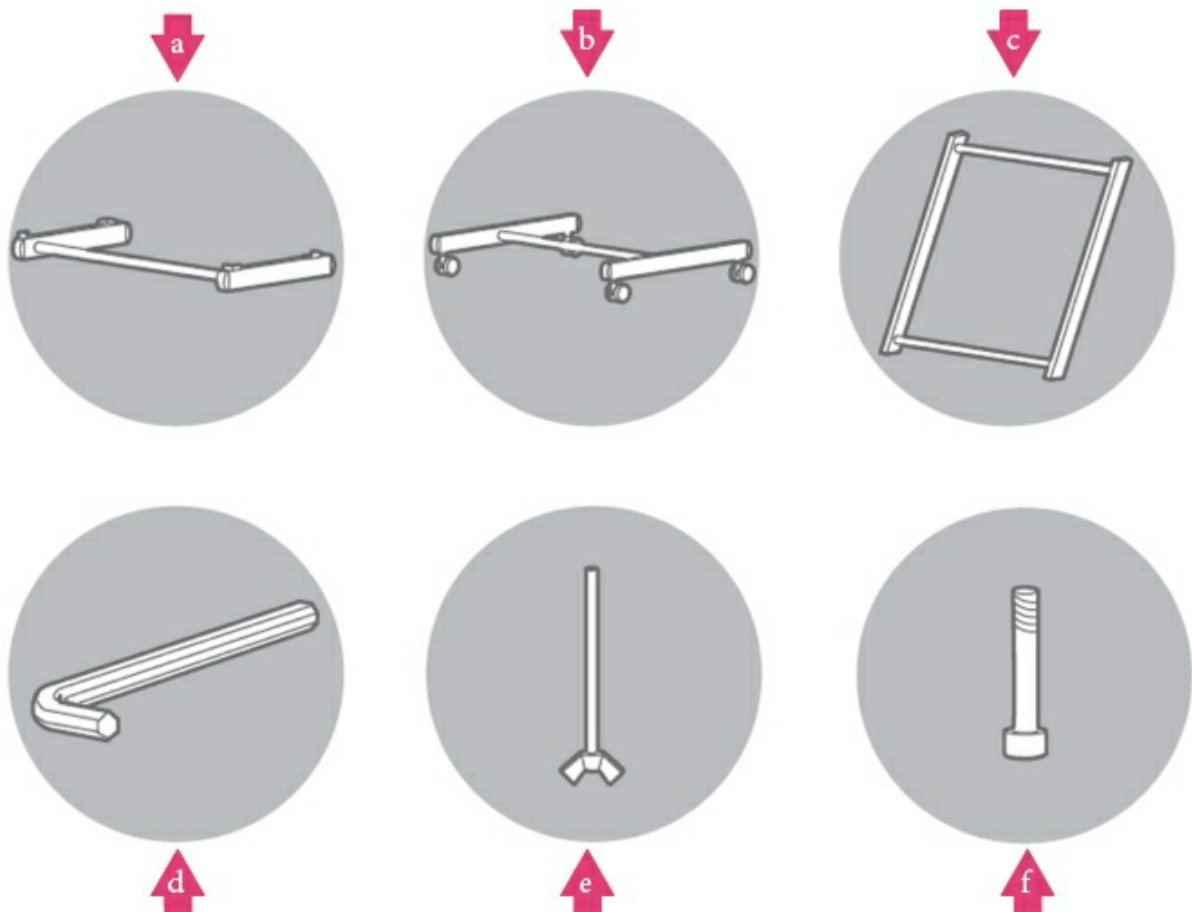

Figure 4
4. Open the printer stand box and confirm that it contains the following. See Figure 4.